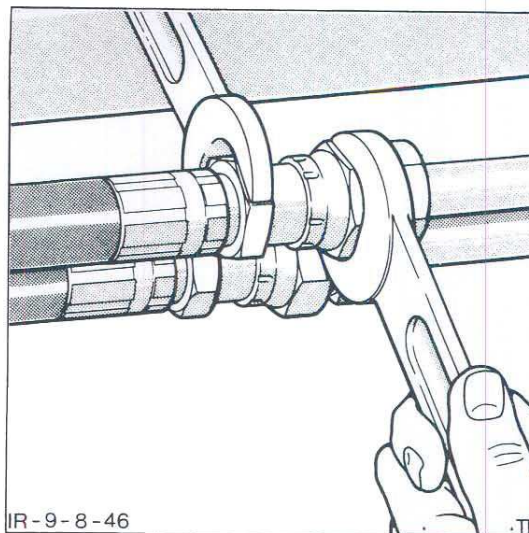

Figure 26
4. Using two suitable wrenches, tighten the fitting to the specified torque, Figure 26. See "Specifications" – Chapter 11.